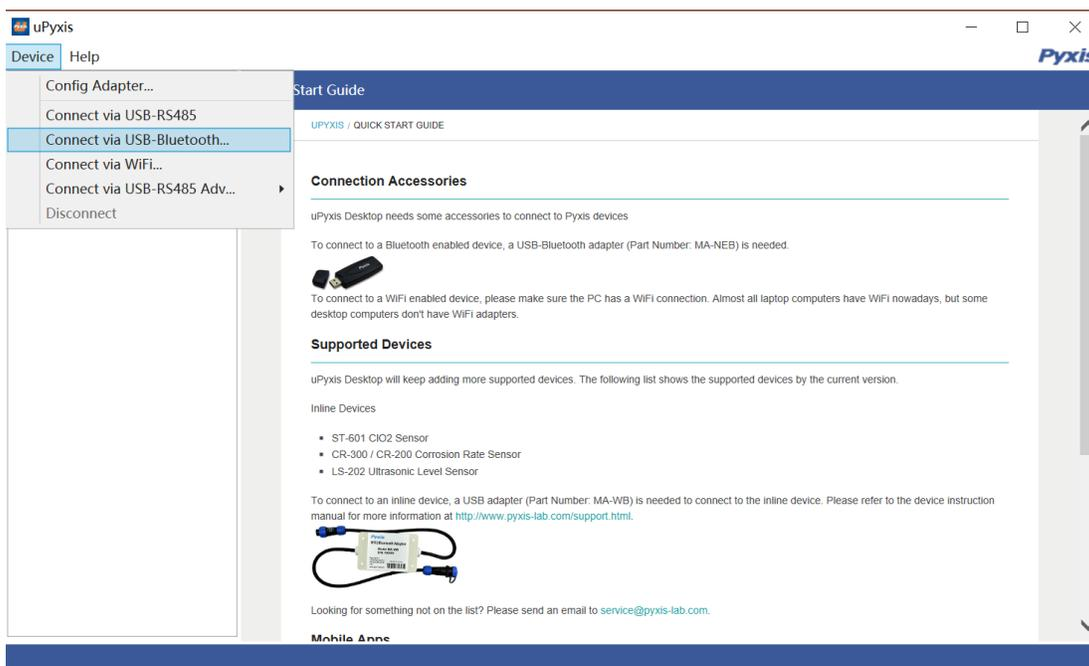

Figure 16 Connection Options
4. Normally only one Bluetooth adapter is identified by uPyxis. If more than one Bluetooth adapter listed in the selection dropdown, select the appropriate device to make connection. (Figure 16)